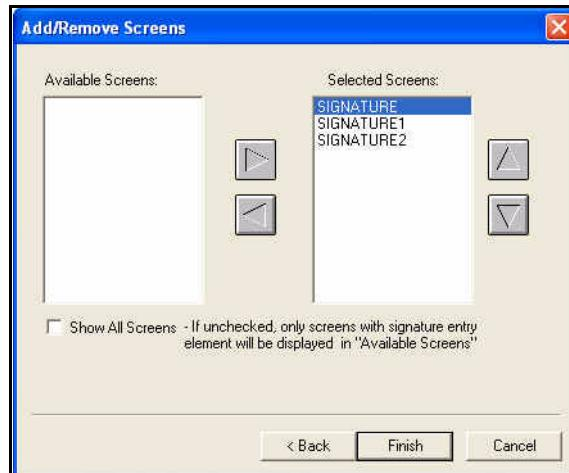

Figure 2-52 Add/Remove Screens dialog box
8. One at a time, select the SIGNATURE, SIGNATURE1, and SIGNATURE2 screens from the **Available Screens** list and click the **Right Arrow** to move the selected screens to the **Selected Screens** list as shown in Figure 2-52. Use the **Up Arrow** and **Down Arrow** to arrange the screens in the order you need them to transition when the virtual screen is selected, if they are not already in the correct order.